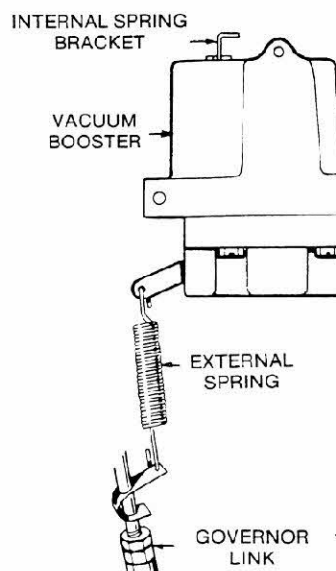

FIGURE 13a. VACUUM BOOSTER
1. After sensitivity adjustment, connect booster external spring to slide on governor link (Figure 13a).
4. If speed increases more than at no-load, lessen internal spring tension of the booster. To change tension, pull out spring bracket and move the pin to a different hole (Figure 13a). If speed decreases when load is applied, increase internal spring tension of the booster.